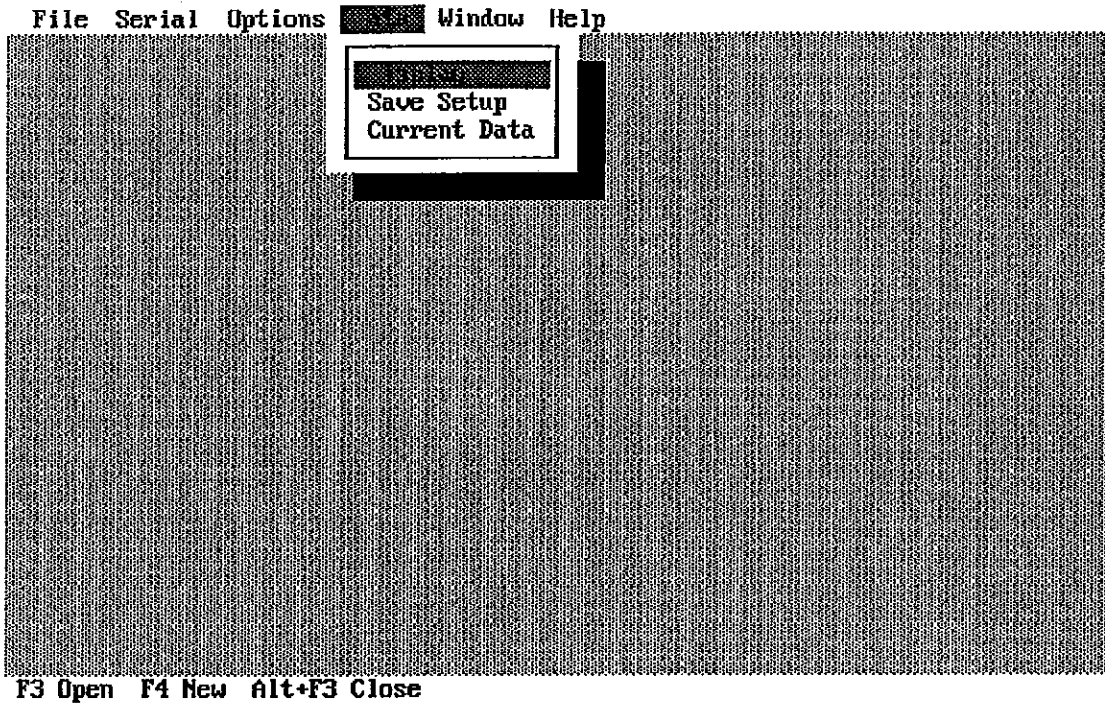

Figure 3-25. Diagnostic Display Initiate
- e. Move the pointing device to the DATA menu and selected it (Alt-D). The screen should look similar to Figure 3-25.